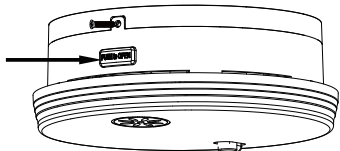

Figure 3: Use a screwdriver to loosen the screw and then press the button to open the battery compartment.
- Look for 'PUSH to OPEN' (Fig.3).